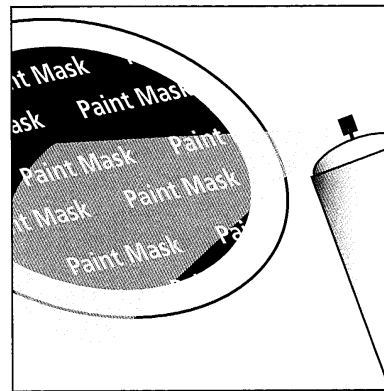

FIGURE 8
1. Apply paint to exposed (unmasked parts). Use two or more thin coats. Spray painting is recommended [figure 8].